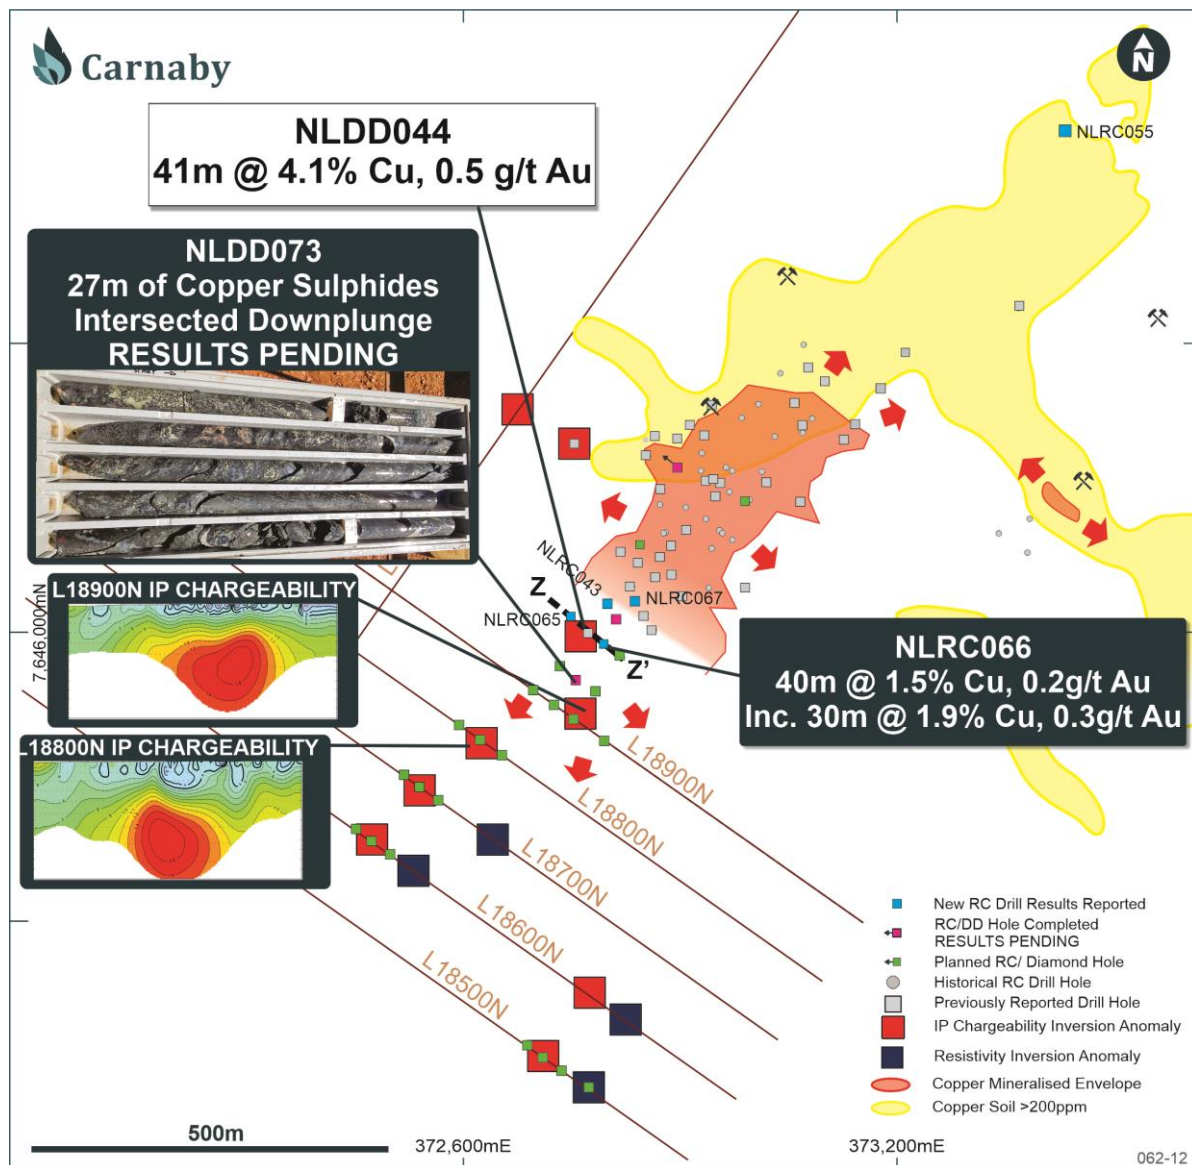

Figure 2. Nil Desperandum Plan location of RC and diamond drill holes and chargeability anomalies.
- **At Nil Desperandum, the first southwest step out diamond drill hole (NLDD073) has intersected a broad zone of copper sulphide mineralisation over 27m downhole and located approximately 125m down plunge of the discovery hole NLDD044 (Figure 2, Table 2).**
- **Results from the Nil Desperandum prospect have also been received from RC drilling, including confirmation of the shallow southeast dip of the high-grade copper gold discovery (Figure 2, Table 1);**
The Nil Desperandum high-grade shoot has now been intersected in three adjacent drill holes, NLDD044, NLRC066 and NLDD073 and remains completely open down plunge to the south and southwest where several IP chargeability anomalies are located (Figure 2).
NLDD073 was collared approximately 70m SSW of discovery hole NLDD044 (Figure 2). The strongly mineralised shoot was intersected in a position approximately 125m down plunge of the NLDD044 and NLRC066 intersections. Additional drilling is underway to test both up dip and down dip of NLDD073 to quantify the magnitude of the mineralisation either side of this intersection.
Additional drilling is also underway to commence testing the numerous IP chargeability anomalies south and southwest of this hole (Figure 2).
Results have been received for drill holes NLRC065 and NLRC066 which were drilled on section immediately up dip and down dip of the high-grade discovery drill hole NLDD044 (Figure 2 & 7).